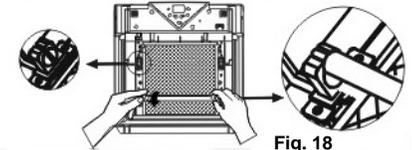

Fig. 18
8. Unpack the new bulb carefully, handling only the base and not the bulb. Place the new bulb into the socket with the pins pointing upwards. (Fig. 18)